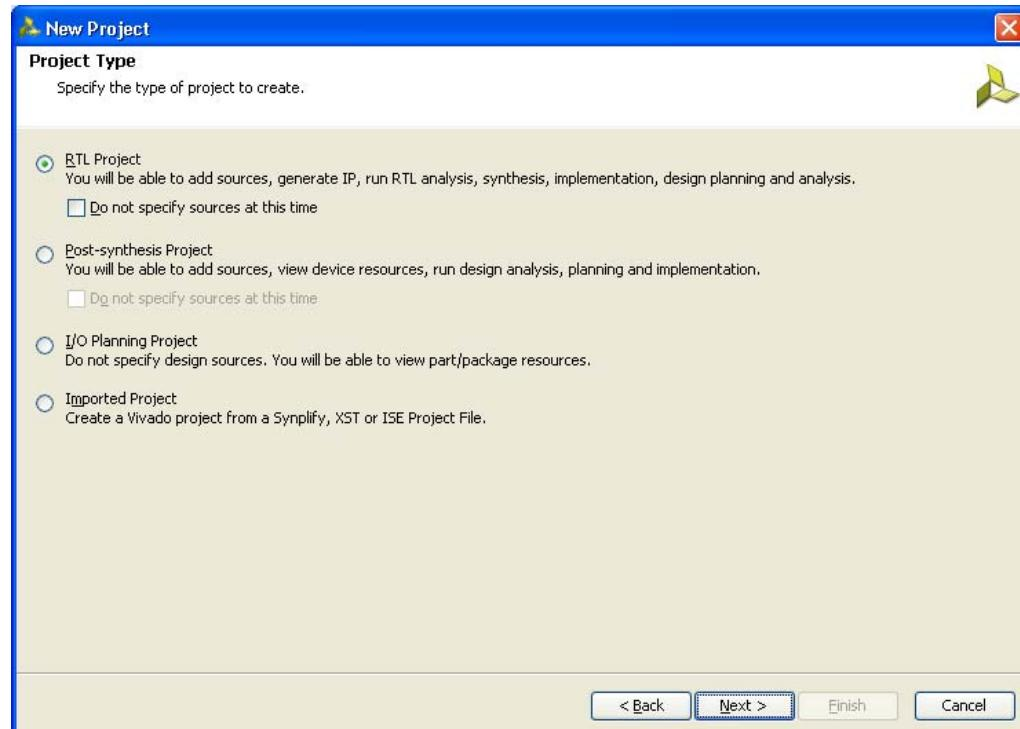

Figure 2-4: **Project Type**
4. Click **Next** to proceed to the **Project Type** page (Figure 2-4). Select the **Project Type** as **RTL Project** because MIG deliverables are RTL files.